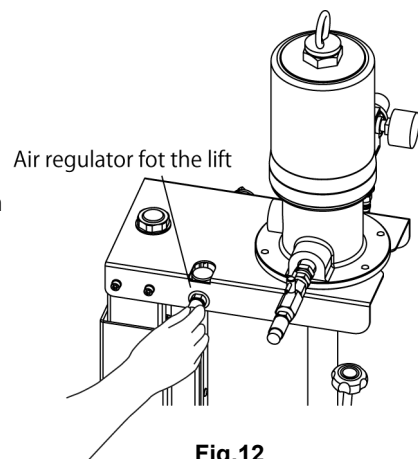

Fig.12
- 1) Adjust the air regulator for the lift to set the pointer of the pressure gauge so that it can indicate a value from 0.4 - 0.5 MPa with following the description of "NOTE" below. (Fig.12)